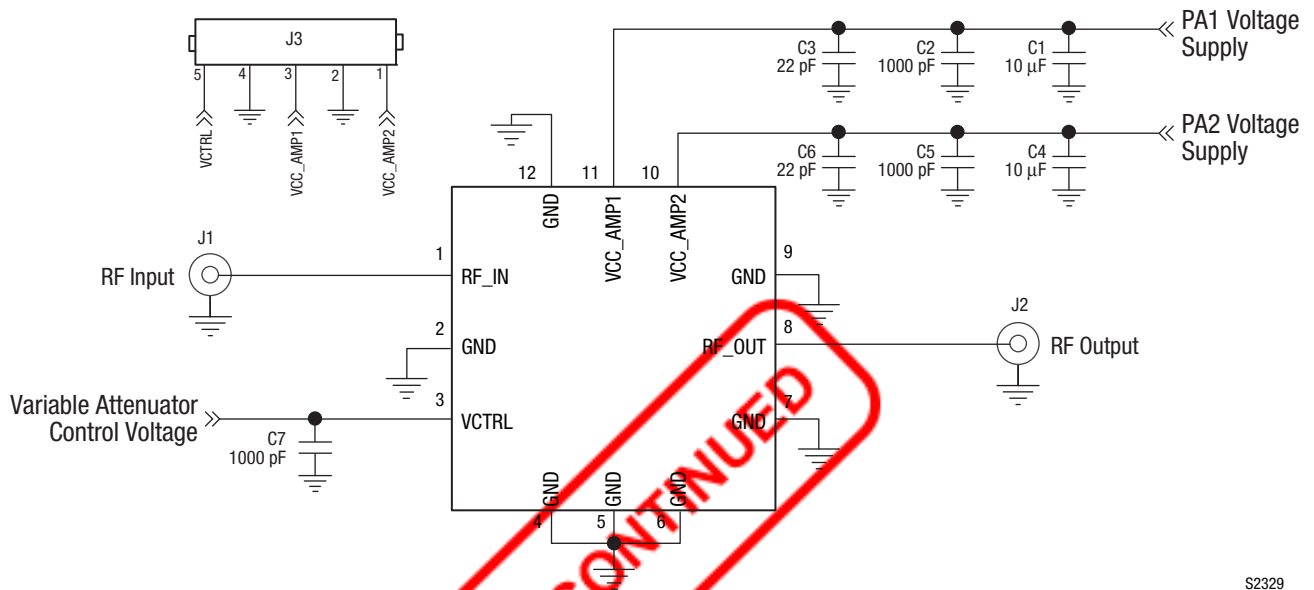

Figure 3. SKY65388-11 Evaluation Board Schematic
The Skyworks SKY65388-11 Evaluation Board is used to test the performance of the SKY65388-11 VGA. An Evaluation Board schematic diagram is provided in Figure 3. An assembly drawing for the Evaluation Board is shown in Figure 4 and the layer detail is provided in Figure 5. The layer detail physical characteristics are noted in Figure 6.
- It is recommended that the layout for the VCC_AMP1 and VCC_AMP2 signals follow what is shown in Figure 4. The VCC_AMP1 and VCC_AMP2 traces can be tied together to share the same power supply. The connecting node should not be placed close to the package pins. The connecting node should be connected closer to components C1 and C4 (see Figure 3). This is to provide isolation between VCC_AMP1 and VCC_AMP2.